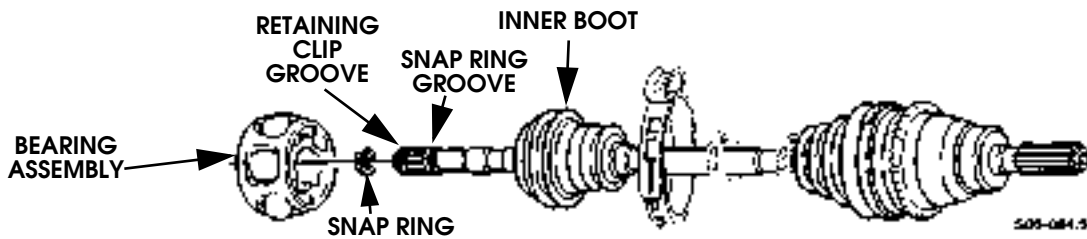

Figure 9-48: Halfshaft Boot Replacement
10. Move outer race up on shaft to allow for better access to inner race (Figure 9-48).
11. Locate snap ring adjacent to inner race. Remove snap ring from groove and slide up on shaft (Figure 9-48).
14. Remove outer race, snap ring, and inner boot from shaft. (Figure 9-48).
8. Install the snap ring and retaining clip into grooves on shaft (Figure 9-48).